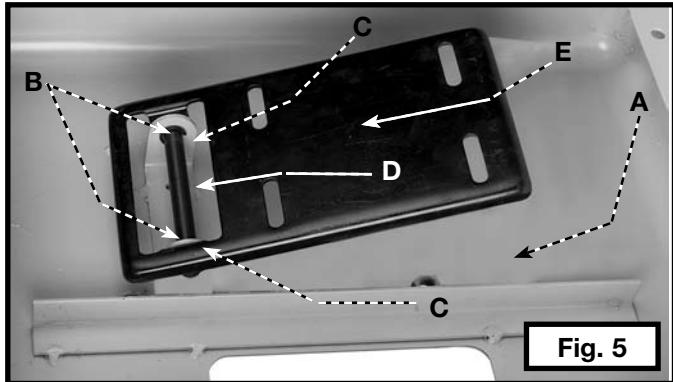

Fig. 5
1. Place the stand top (A) Fig. 5 on a flat surface.
2. Align the two holes in the motor mounting plate (E) Fig. 5 with the two holes (B) in the stand top (A).
3. Insert the shaft (D) through the holes in the motor mounting plate and the holes in the stand top.
4. Attach the two "C" rings (C) Fig. 5 on the shaft.